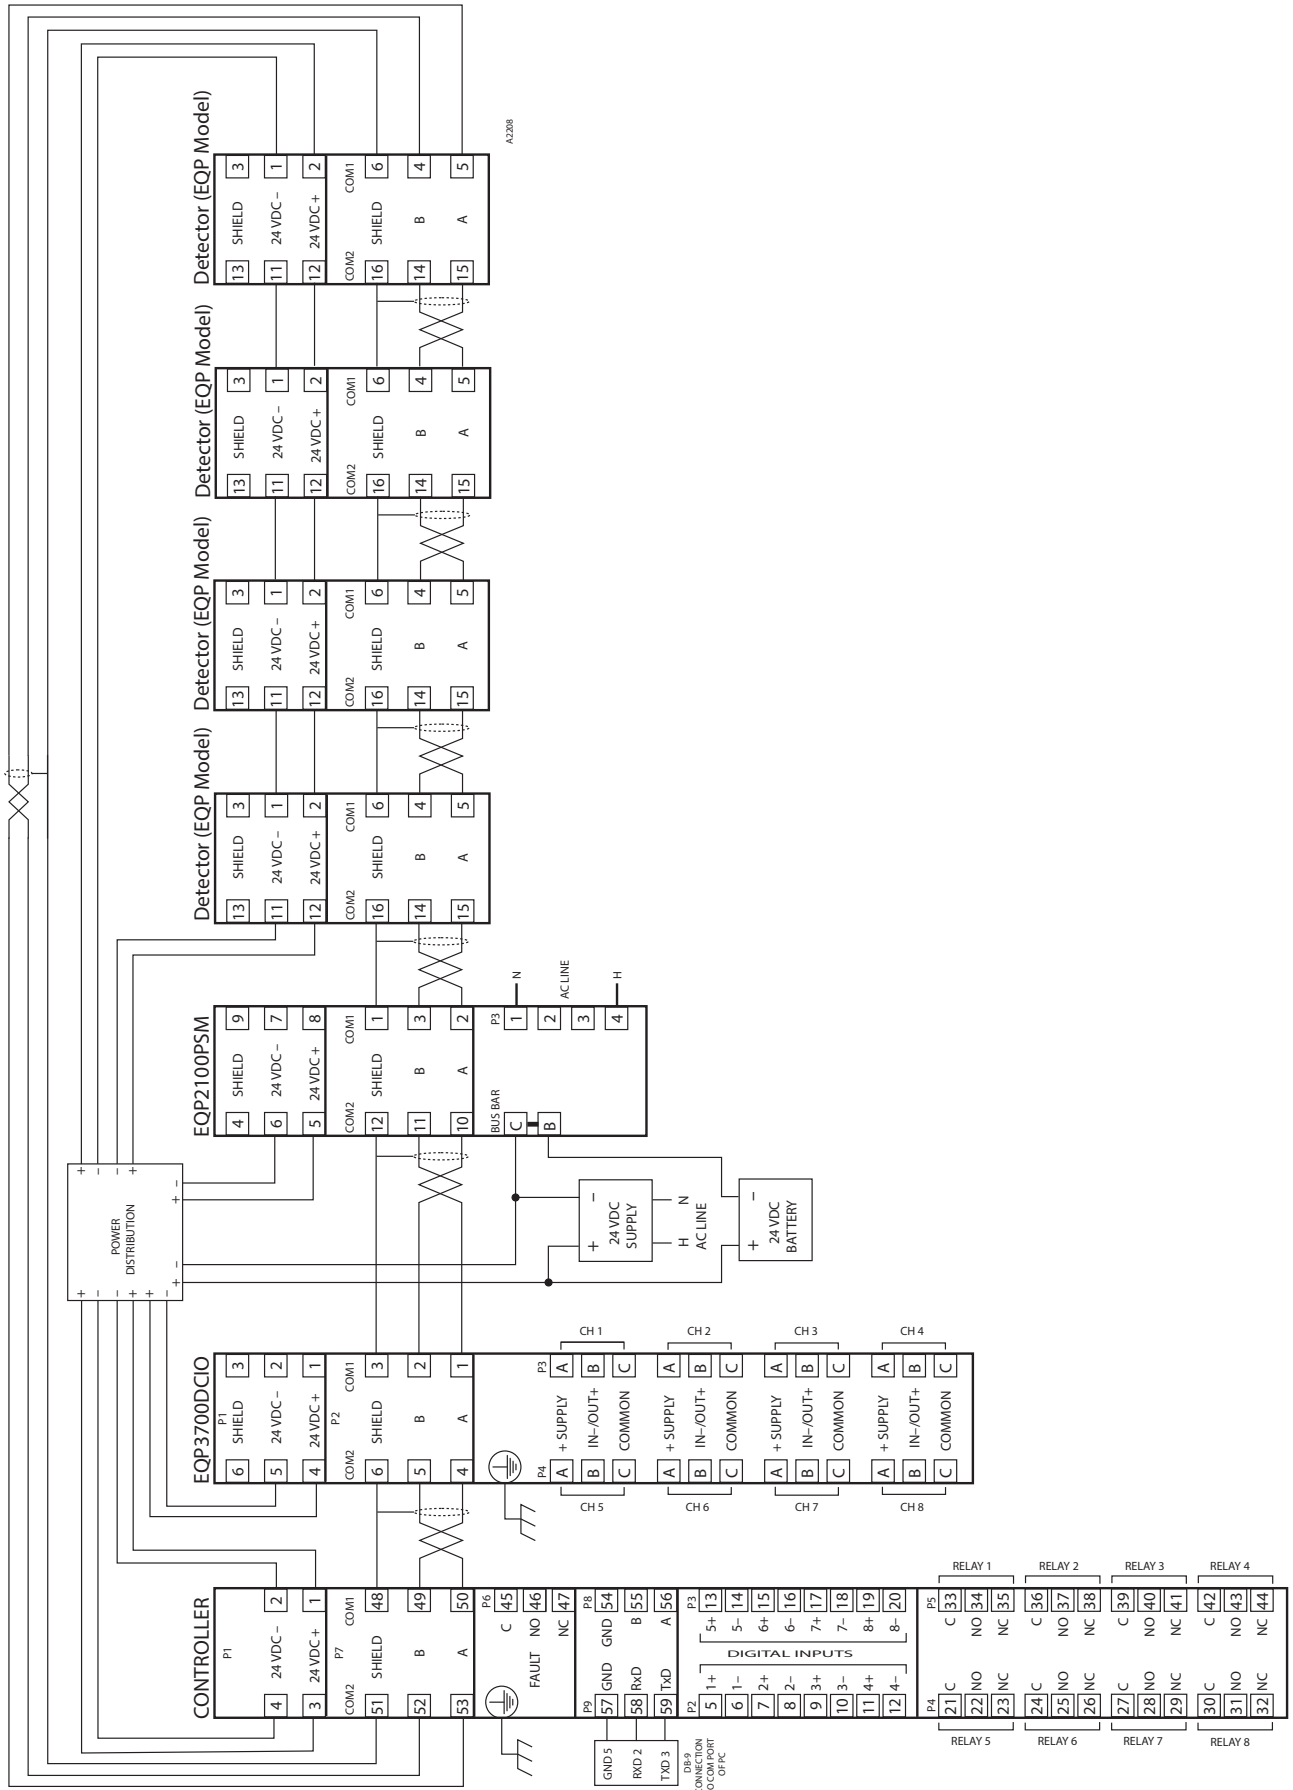

Figure 14—Detector Terminal Block (EQP Model)
1. Connect external wires to the appropriate terminals inside the terminal compartment, shown in Figure 14. See Figure 15 for terminal identification.